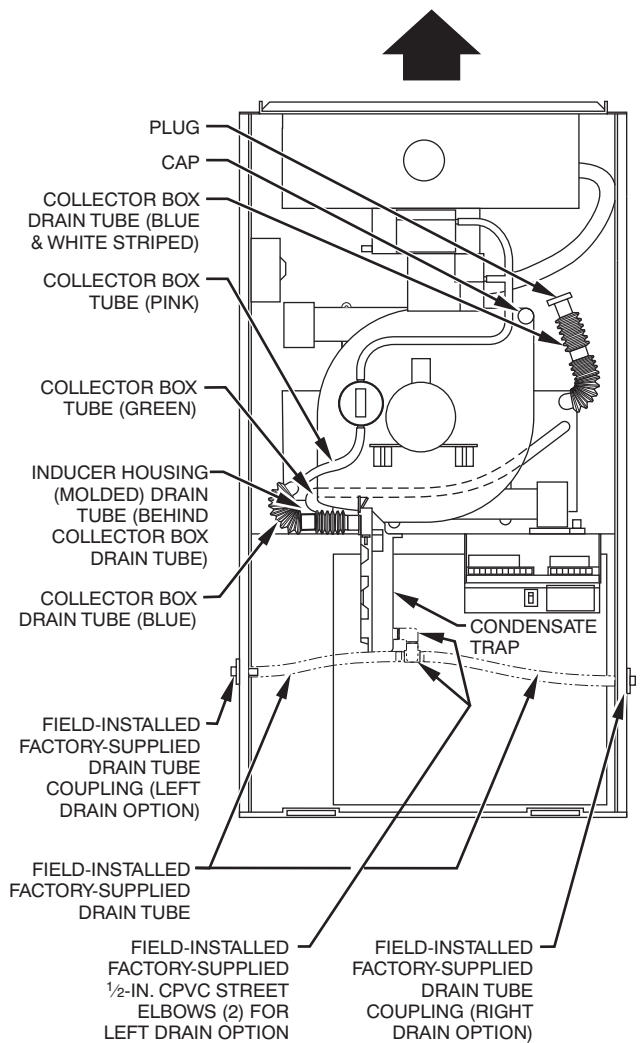

Fig. 6 - Factory Shipped Upflow Tube Configuration (Shown With Blower Access Panel Removed)
Some assembly and modifications are required for furnaces installed in any of the 4 applications shown in Fig. 1. All drain and pressure tubes are connected as shown in Fig. 6. See appropriate application instructions for these procedures.
NOTE: See Fig. 6 or tube routing label on main furnace door to confirm location of these tubes.
- j. Cement 2 factory-supplied 1/2-in. (13 mm) street CPVC elbows to the rigid drain tube connection on the condensate trap. (See Fig. 6.) These elbows must be cemented together and cemented to condensate trap drain connection.
NOTE: See Fig. 6 or 7 or tube routing label on main furnace door to check for proper connections.